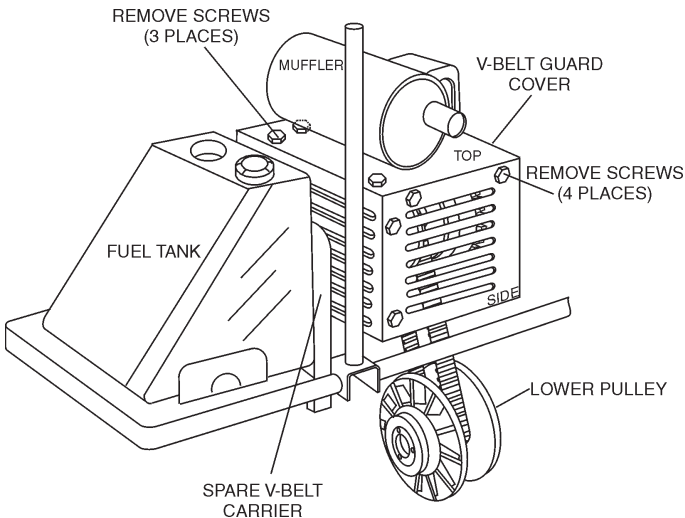

Figure 10. Drive Belt Guard Cover
1. Remove the seven HHC screws that secure the V-belt guard cover as shown in Figure 10. Please note that the screw under the muffler is somewhat difficult to remove.